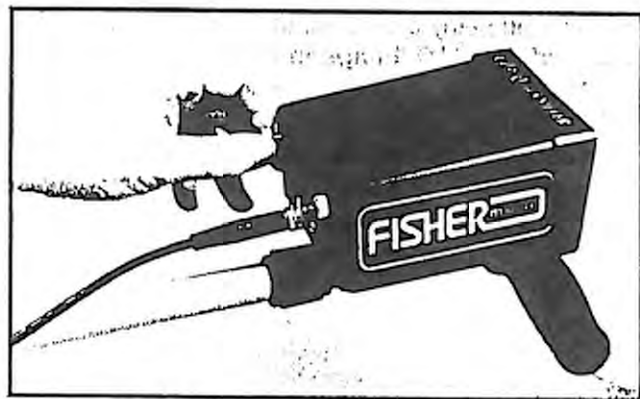

Figure 9. Battery replacement.
1. Remove the battery door by loosening the two captive screws. (See figure 9.)